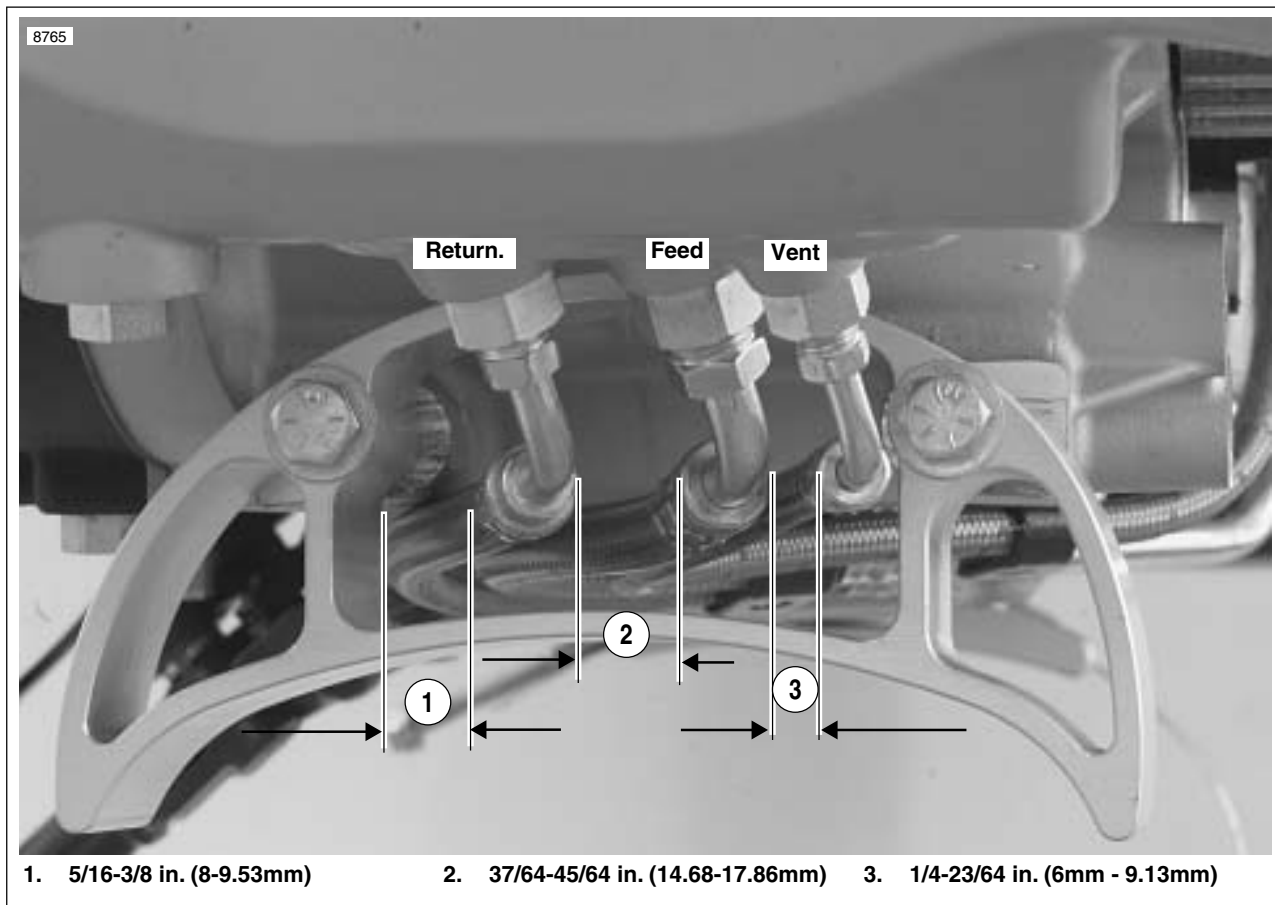

Figure 3-48. Oil Line Clearances
20. See Figure 3-48. Install the return, feed and vent oil lines starting at the swingarm/oil reservoir and working towards the front of the vehicle. Leave all oil line fittings loose at this time.
21. See Figure 3-48. Tighten the return oil line first making sure to maintain the proper clearance between the oil line and the rear muffler bracket. 23-25 ft-lbs (31.2-33.9 Nm).